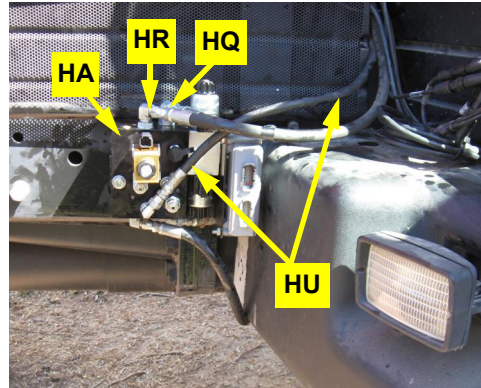

Figure 9b: Installing the pressure and tank hoses (and LS hose)
- b. Install the pressure **HR** and tank **HQ** hydraulic hoses between the **P** and **T** ports of the hydraulic steering block respectively and the corresponding run-tees installed in step **6** (Figure 9b). Make certain that the connections are not reversed.